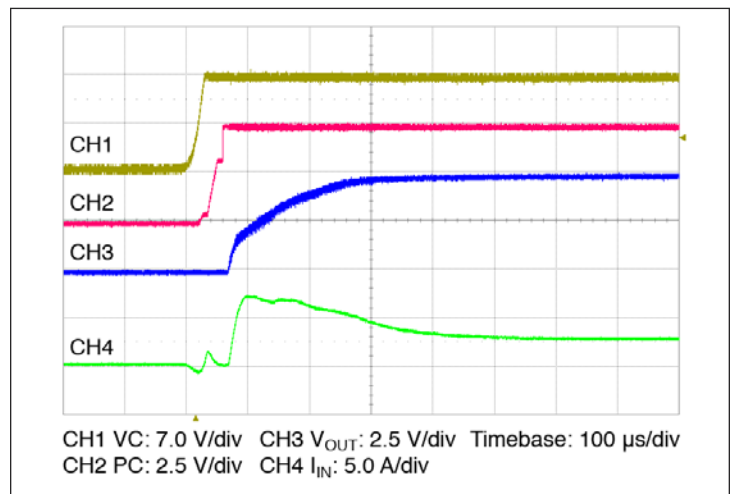

Figure 14 — Start up from application of VC; V_{IN} pre-applied $C_{OUT} = 2000 \mu\text{F}$
- Stand Alone Operation (VC applied after V_{IN}): In this case the module output will begin to rise upon the application of the VC voltage (See Figure 14). The Adaptive Soft Start circuit (See Section 10) may vary the output rate of rise in order to limit the inrush current to its maximum level. When starting into high capacitance, or a short, the output current will be limited for a maximum of 900 µsec. After this period, the adaptive soft start circuit will time out and the module may shut down. No restart will be attempted until VC is re-applied, or PC is toggled. The maximum output capacitance is limited to 2000 µF in this mode of operation to ensure a successful start.